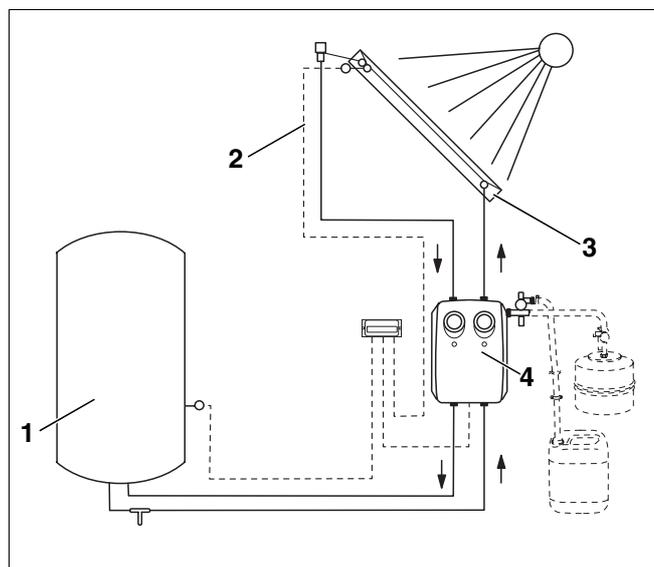

Fig. 3 Solar heating system pipework
The collectors (Fig. 3, **Item 3**), the solar pump station (Fig. 3, **Item 4**) and the solar cylinder (Fig. 3, **Item 1**) are interconnected with copper pipes.
- ▶ While the pipework is being installed you should extend the collector sensor lead (Fig. 3, **Item 2**) as far as the solar pump station (control). Make sure that the cross-section of the lead conforms to the specifications in the controller instructions.